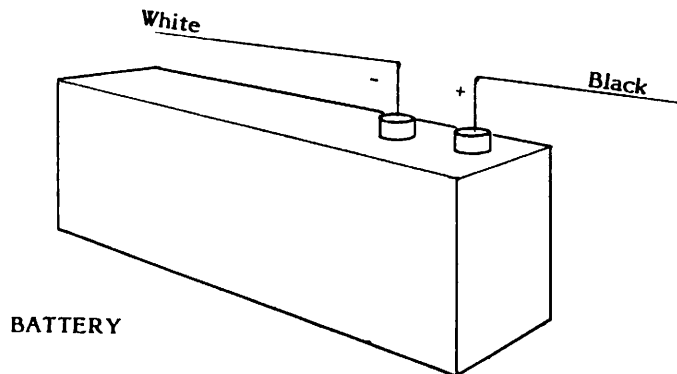

FIGURE 1
2. When using the LTADS in the field with the Wood-Mizer® Model LT20, use the provided socketed pigtail with the battery clips. Attach the clips to the terminals of a car or truck battery per **Figure 1**. Plug the grinder lead into the pigtail socket. Check the grinding wheel rotation direction. Rotation of the grinding wheel should be counterclockwise when viewed from the shaft end of the motor. If direction is wrong, reverse the two clips on the battery.